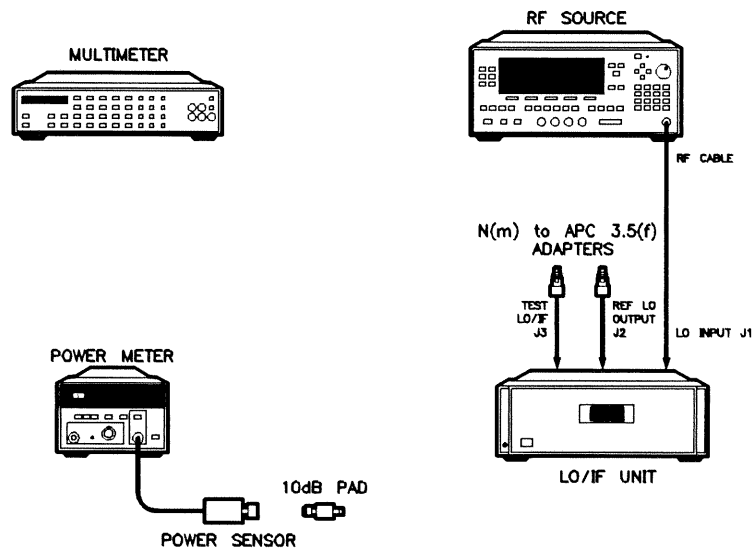

Figure 7-32. LO Amplifier Adjustment Test Setup
1. Set up the test equipment as shown in Figure 7-32. No other measurement system instruments should be connected to the LO source or LO/IF unit. If the 85309A has option 001 or 002, make some extra copies of Table 7-28 to use for the extra channels.